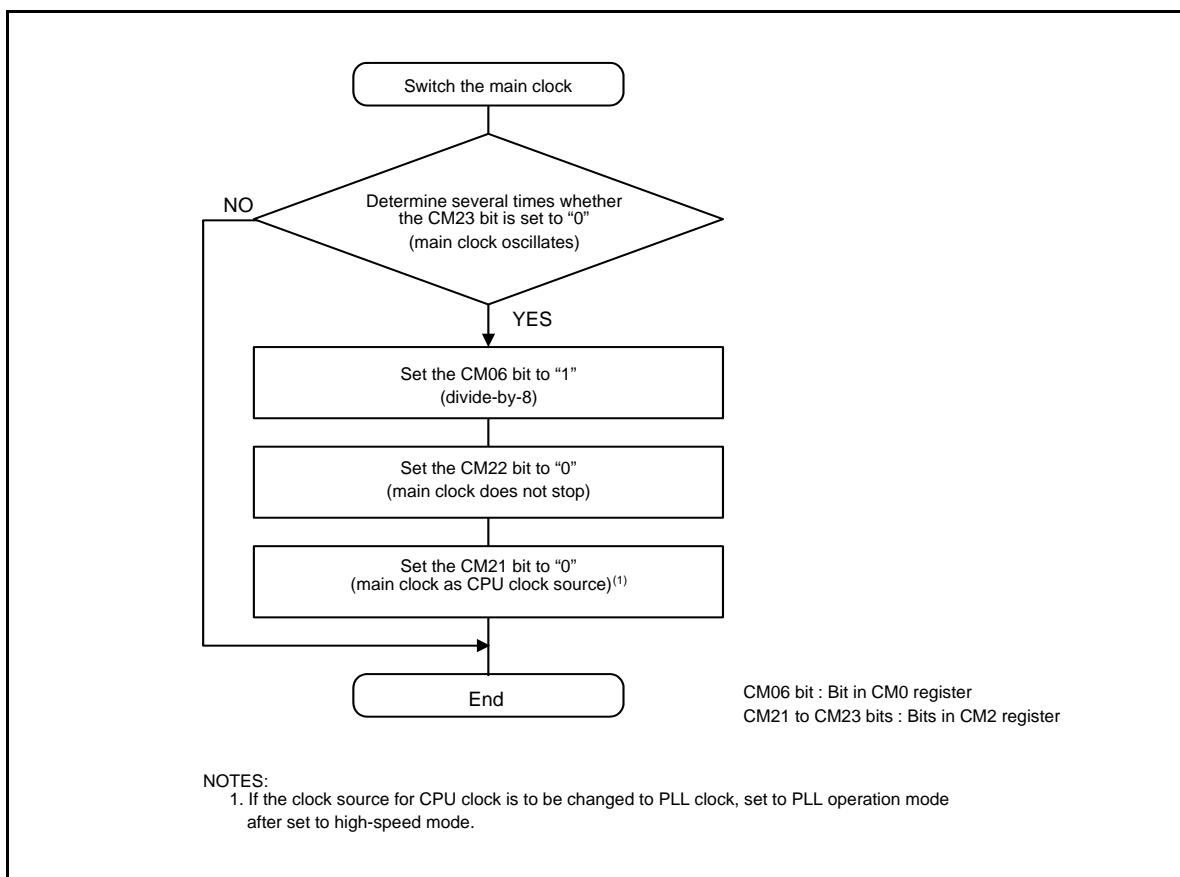

Figure 10.12 Procedure to Switch Clock Source From On-chip Oscillator to Main Clock
- Where the main clock re-oscillated after oscillation stop, the clock source for the CPU clock and peripheral functions must be switched to the main clock in the program. Figure 10.12 shows the Procedure to Switch Clock Source From On-chip Oscillator to Main Clock.